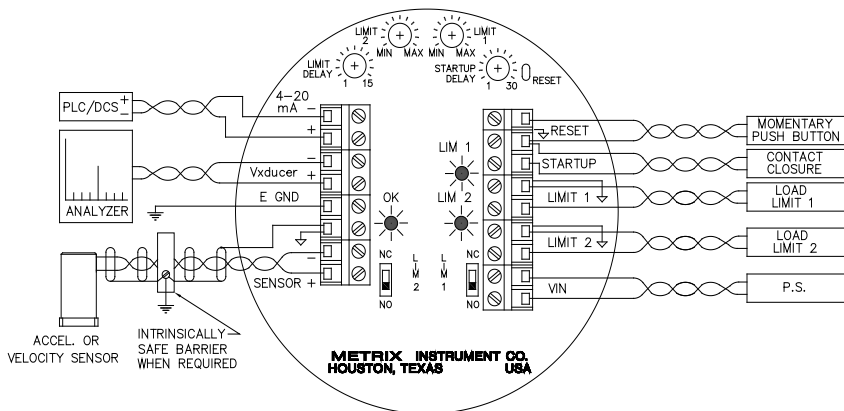

Figure 2: Wiring Diagram (LCD option not shown)
Refer to figure 2 for wiring information. For incoming power and switch output(s) use approved wire of 14 AWG (1.5 sq. mm) or smaller.
- Set each SM6100 for N.C. (normally closed) operation. (See Figure 2)
The optional FET limit output(s) provide a low leakage switch for DC inputs to PLC's or other devices. Do not use on an AC supply. Observe proper polarity when wiring the FET(s) (See figure 2). Damage to the FET(s) will result from improper wiring. As with the triacs, the FET(s) can be set for N.C. or N.O. operation by positioning the Limit 1/Limit 2 switches accordingly.
If remote reset capability is desired, connect Reset terminals (see Figure 2) to a remotely located, momentary N.O. pushbutton switch. Observe hazardous area requirements if applicable.
The Model SM6100 requires the use of an external sensor. Refer to Product Identification, option ‘G’ to determine the type of sensor required. Mount and connect the sensor per the manufacturer’s instructions and Figure 2.
If the optional 4-20 mA output is installed, it may be connected to a remote receiver, as shown on the wiring diagram (see Figure 2). This output is a current source (at 15VDC) and requires no external loop power supply. Full scale current (20 mA) corresponds to the full scale vibration response marked on the face plate. A current of 4.0 mA represents a zero vibration condition. The maximum load resistance is 600 ohms. In high electrical noise locations, a shielded, twisted pair cable is recommended.